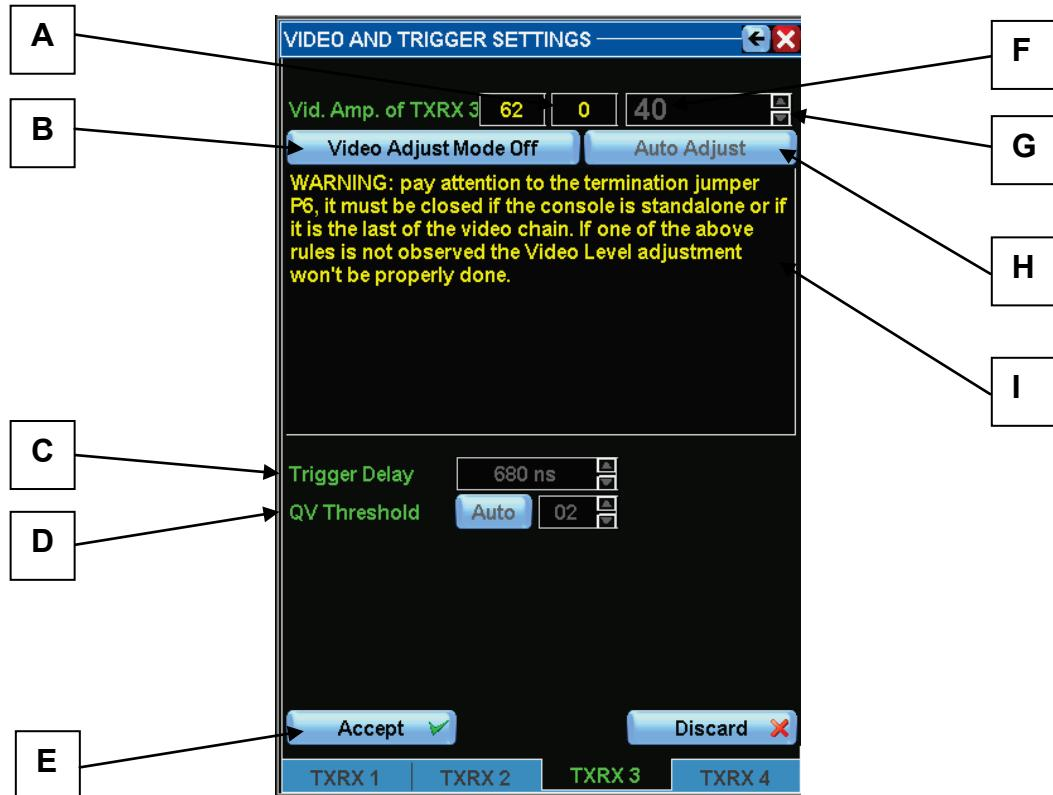

Figure 3.9.1 Video and Trigger Setting
Pressing the **B** button (password protected) of fig. 3.9.1, page 3.16, the system goes into "VIDEO ADJUST MODE ON" (under normal conditions this function is set to OFF). When carrying out this operation the TEST video is activated on the main PPI display; in other words, a large ring is created and the following actions are automatically carried out:
To adjust the video the scale must be set at 0.75 NM or 1.5 NM (refer to the Argus user manual 988-10185-003, paragraph "Range scale increase/decrease"). Using the arrows **G** (Fig. 3.9.1, page 3.16) increase or decrease the value that appears in window **F** (Fig. 3.9.1, page 3.16).
- If red zones are seen on the screen, decrease the value in window **F** (Fig. 3.9.1, page 3.16) to make them completely disappear (some limited red zones are acceptable).
- If the screen is completely yellow, increase the value in window **F** (Fig. 3.9.1, page 3.16) to make the red zones appear and then decrease the value to remove as many red zones as possible.
A datum that assists in understanding that the adjustment is correct is the value in window **A** (Fig. 3.9.1, page 3.16). This value oscillates during adjustment and it can assume three colourations:
End the adjustment operation by pressing push button **B** (Fig. 3.9.1, page 3.16) into OFF mode. Push button **H** (Fig. 3.9.1, page 3.16) permits the automatic adjustment of the video.
A text appears in box **I** (Fig. 3.9.1, page 3.16). This text varies on the basis of the communication hardware configurations adopted between the console and the transmitter. Pay attention to what is shown, otherwise the adjustment operations could become useless and bring about an incorrect visualisation of the radar video.
Press the **C** button (password protected) of fig. 3.9.1, page 3.16 to adjust the Trigger Delay. The Trigger delay is caused by the path length mismatch for the trigger and video signal.
Pressing the **D** button (password protected) of fig. 3.9.1, page 3.16, it is possible to set the QV. The threshold is used by the automatic tracking to identify real radar echoes from receiver noise. This value depends on the receiver noise from the transceiver band and the video cable attenuation. This value can be set manually adjusting the noise level to see some speckles in the 24 NM range scale.